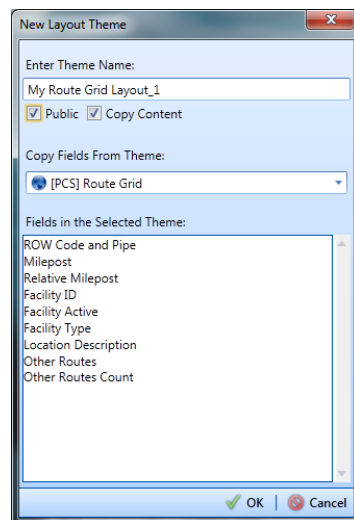

Figure 8-42. New Layout Theme
- 4 Click  **Add** to open the *New Layout Theme* dialog box (Figure 8-42, page 395).